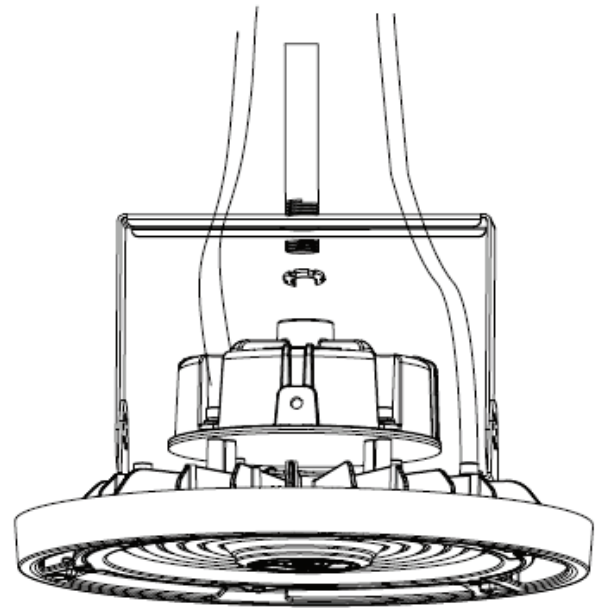

Figure 10
2. Insert threaded end of 1/2" pipe into the bracket hole. Attach appropriate hardware to fasten to bracket. (Figure 10)